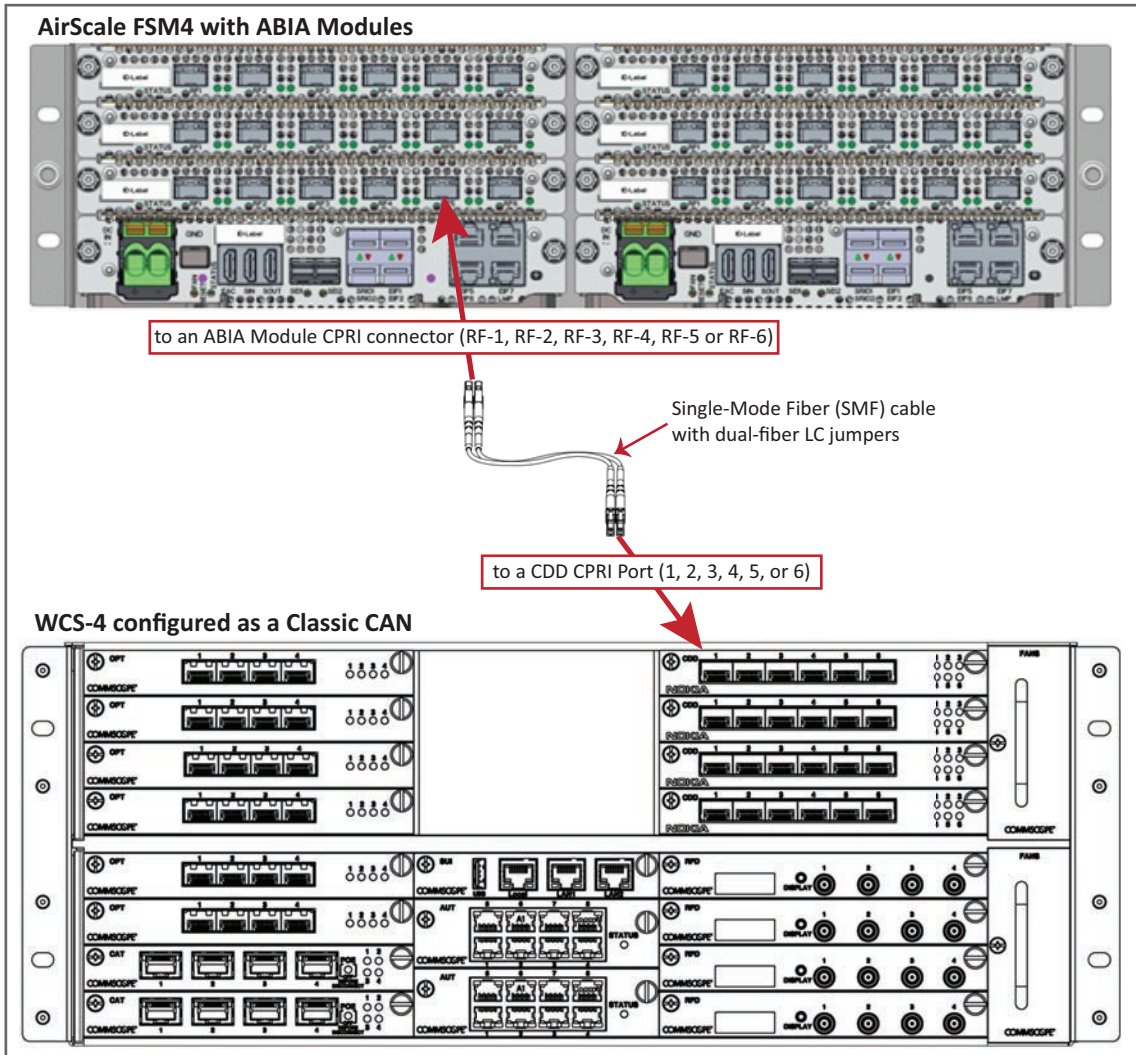

Figure 14. CDD Card in a Classic CAN Connecting to a BBU
- For Classic CAN installations, see Figure 14 on page 78